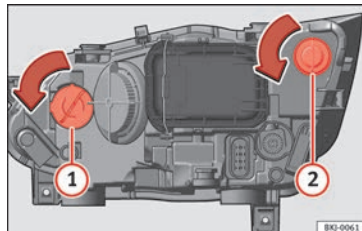

Fig. 112 In the engine compartment: turn signal light bulb **①** and DRL (daytime running light) bulb **②**.
- Turn the bulb holder » **Fig. 112 ①** or **②** to the left and pull.